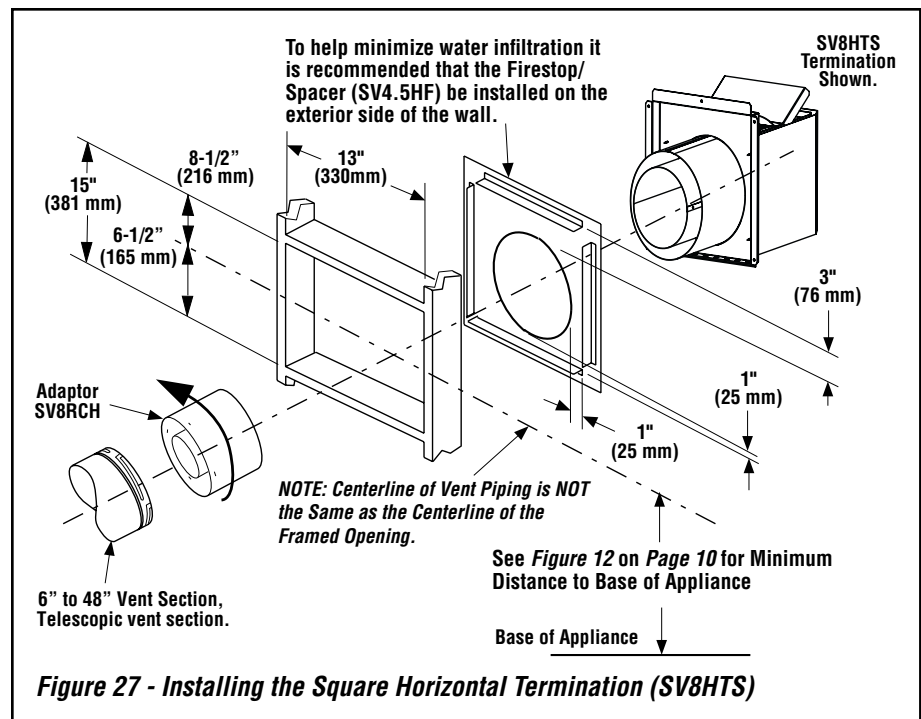

Figure 27 - Installing the Square Horizontal Termination (SV8HTS)
K. Attach termination adaptor - Attach the adaptor (adaptor - SV8RCH - provided with the termination) to the vent section or telescoping vent section), or elbow as shown in **Figure 27** in the same manner as any SV vent component (refer to **Step E on Page 17**).
L. Install Firestop/Spacer at exterior wall - When using the square termination, install SV8HF Firestop/Spacer over the opening at the exterior side of the framing, long side up, with the 3" spacer clearance at the top as shown in **Figure 27**, and nail into place.